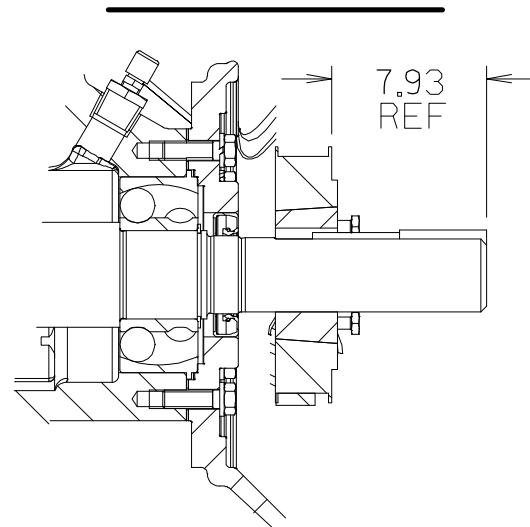

Figure 12. Drive Sprocket Positioning
Install the key (18, Figure 6) in the shaft keyway, making sure to leave room in the keyway for the drive key (18, Figure 6). Install the sprocket (19) and bushing (20) on the shaft to the dimension shown in Figure 12.
*When properly installed to the dimension shown in Figure 12, the key (18, Figure 6) **will not** extend fully through the bushing. This is an acceptable fit for this application.*